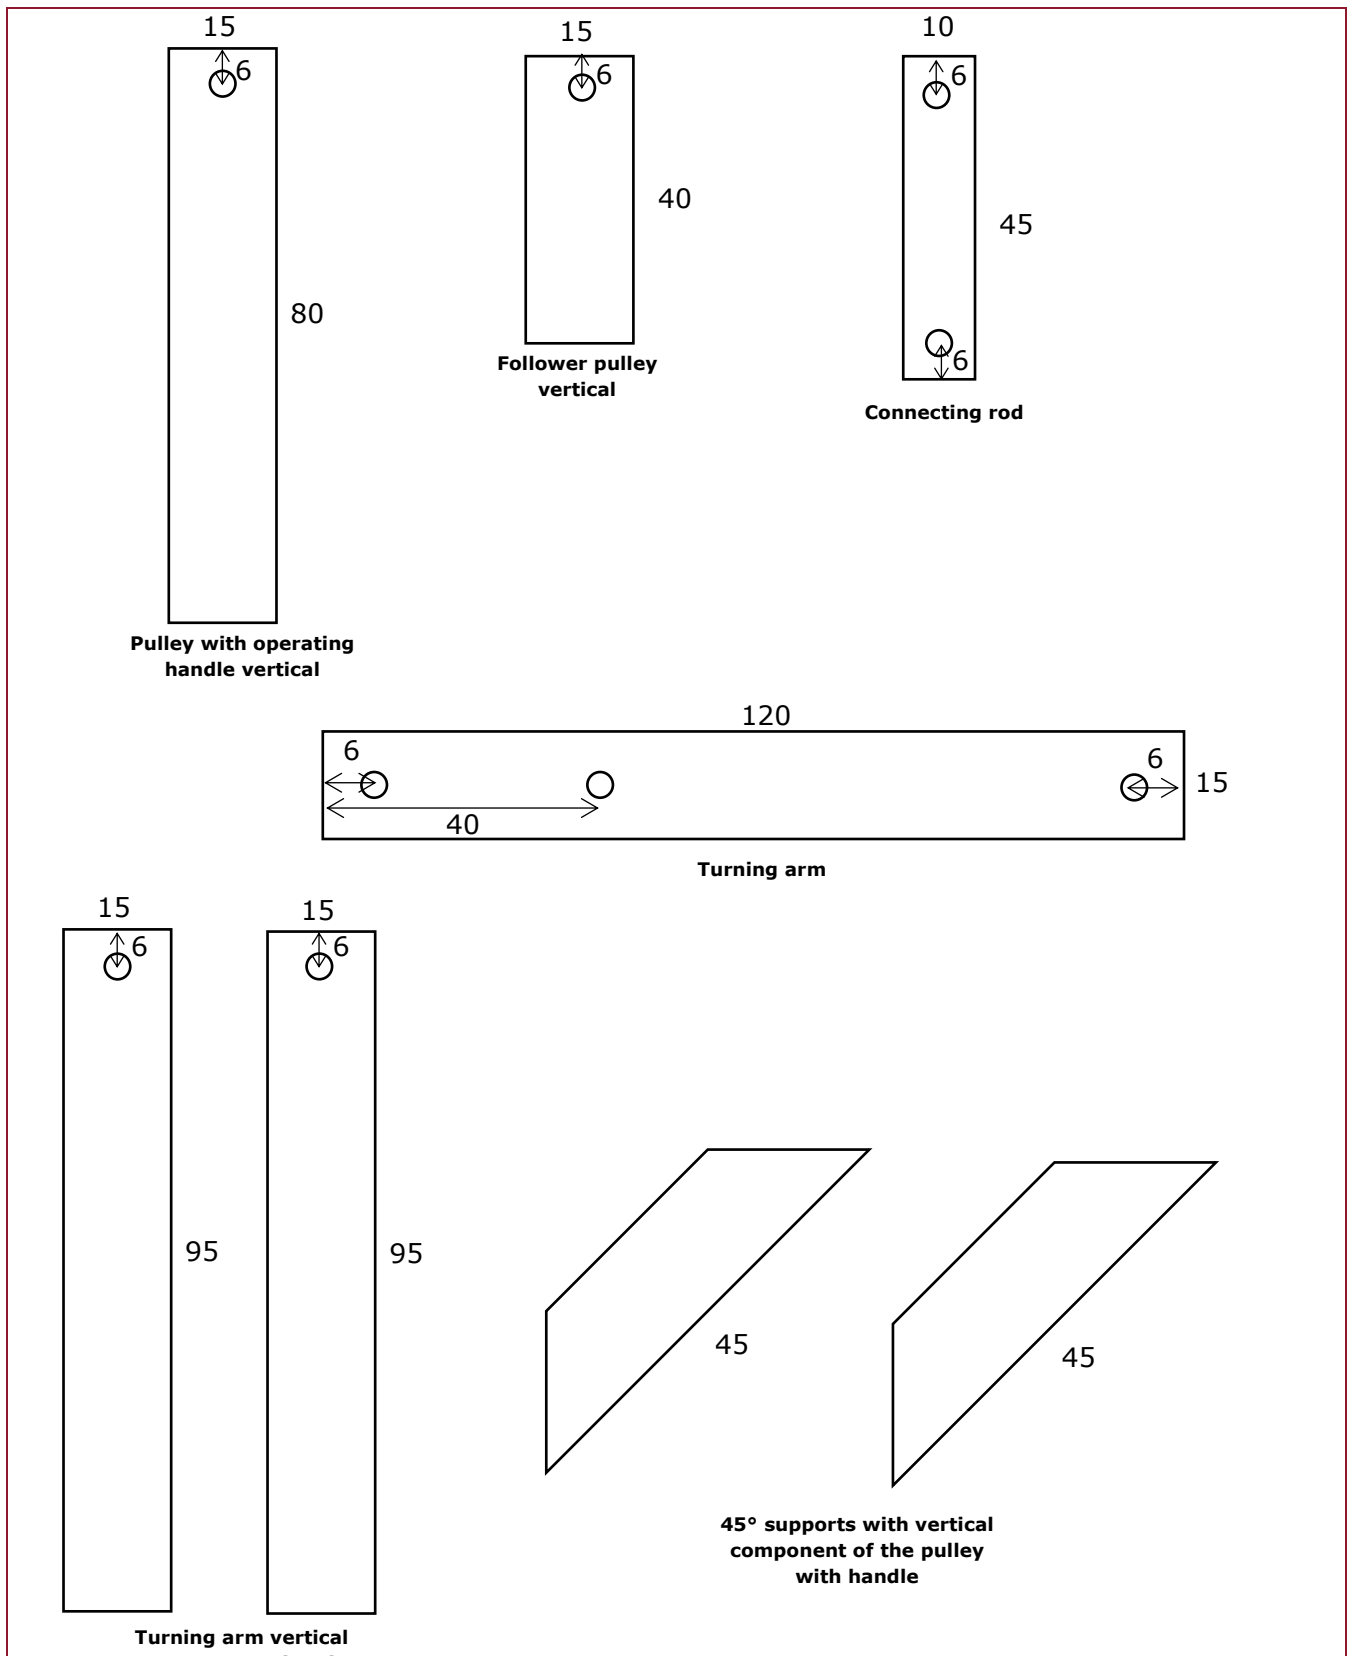

Figure 6: Components
4. **SEVEN** pieces of wood required for the turning arm and supporting components to be cut from 3 mm material (plywood or solid wood) according to Figure 6.
5. **ONE** piece of wood required for connecting rod to be cut from 5 mm material (plywood or solid wood) according to Figure 6.